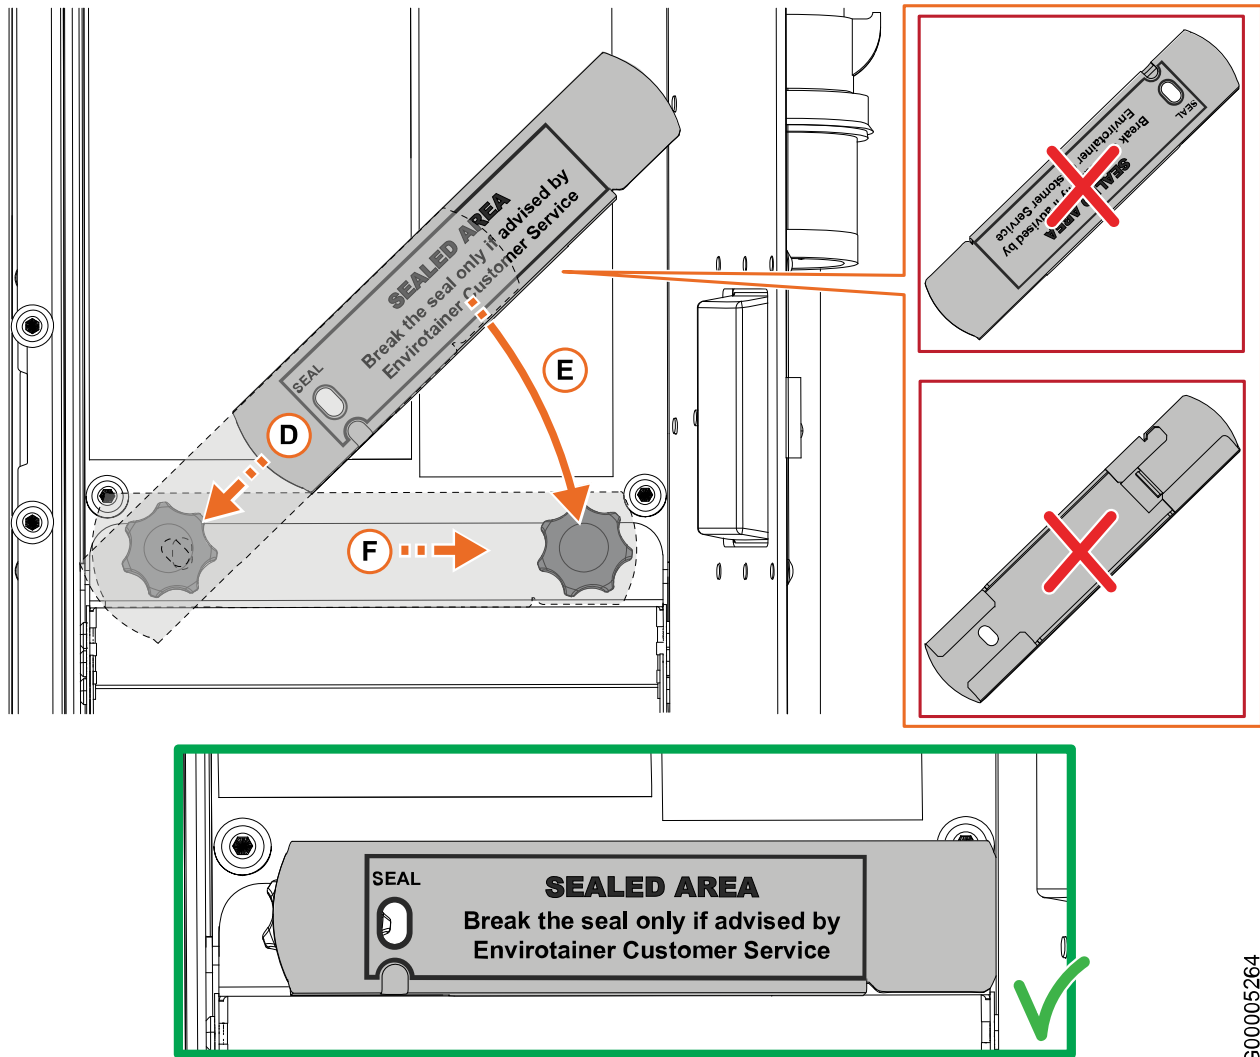

Fig. 32
**11.** Mount the bracket over the thumbscrews (**Fig. 32**):
**11a.** Slide the bracket down over the left thumbscrew at an angle, until it comes to a stop against the left wall (D).
**11b.** Rotate the bracket all the way down over the right thumbscrew, while keeping the left end of the bracket close to the left wall (E).
**11c.** Push the bracket as far to the right as possible (F).